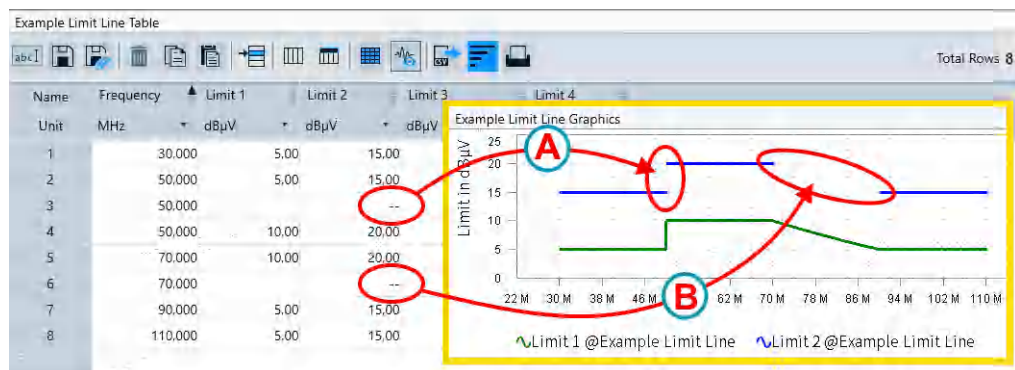

Figure 4-183: Examples of entries in a limit line table, and resulting graphics
- For a "vertical gap" (labeled (A) in Figure 4-183), use the same frequency as in the 1st row
- For a "horizontal gap" (labeled (B) in Figure 4-183), use any frequency between the 1st row and the 3rd row